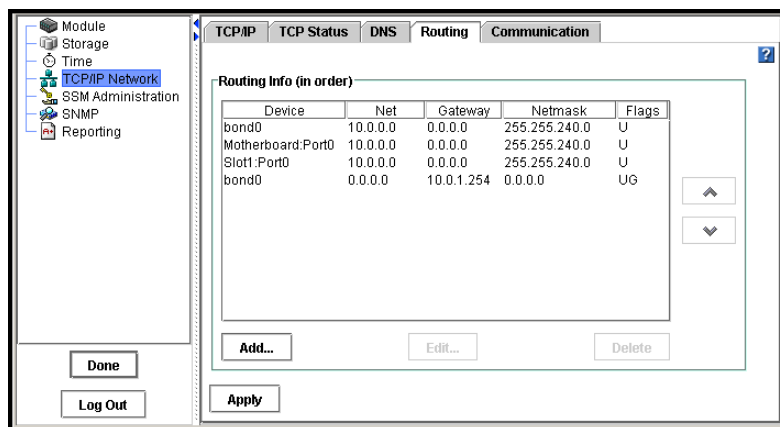

Figure 92. Adding Network Routing Information
3. Click the Routing tab to bring it to the front, shown in Figure 92.